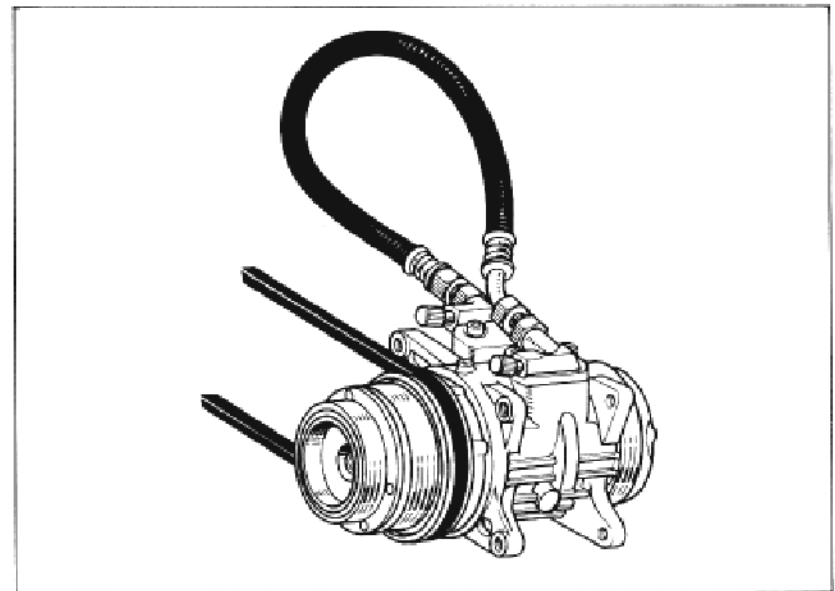

Fig. 1
- B) Connect the flexible hose or tube to the discharge and suction service valves. See Fig. 1.